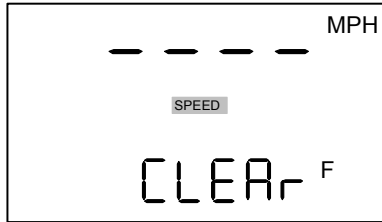

Figure 15. Initial Speed Measurement Screen
5. Release the **TRIGGER**. The display will change to the Speed Measurement Screen, see Figure 15 on page 23.
The display will change to the Speed Measurement Screen, see Figure 15 on page 23.
When you power ON the UltraLyte LR B, the screen display should look similar to Figure 15.